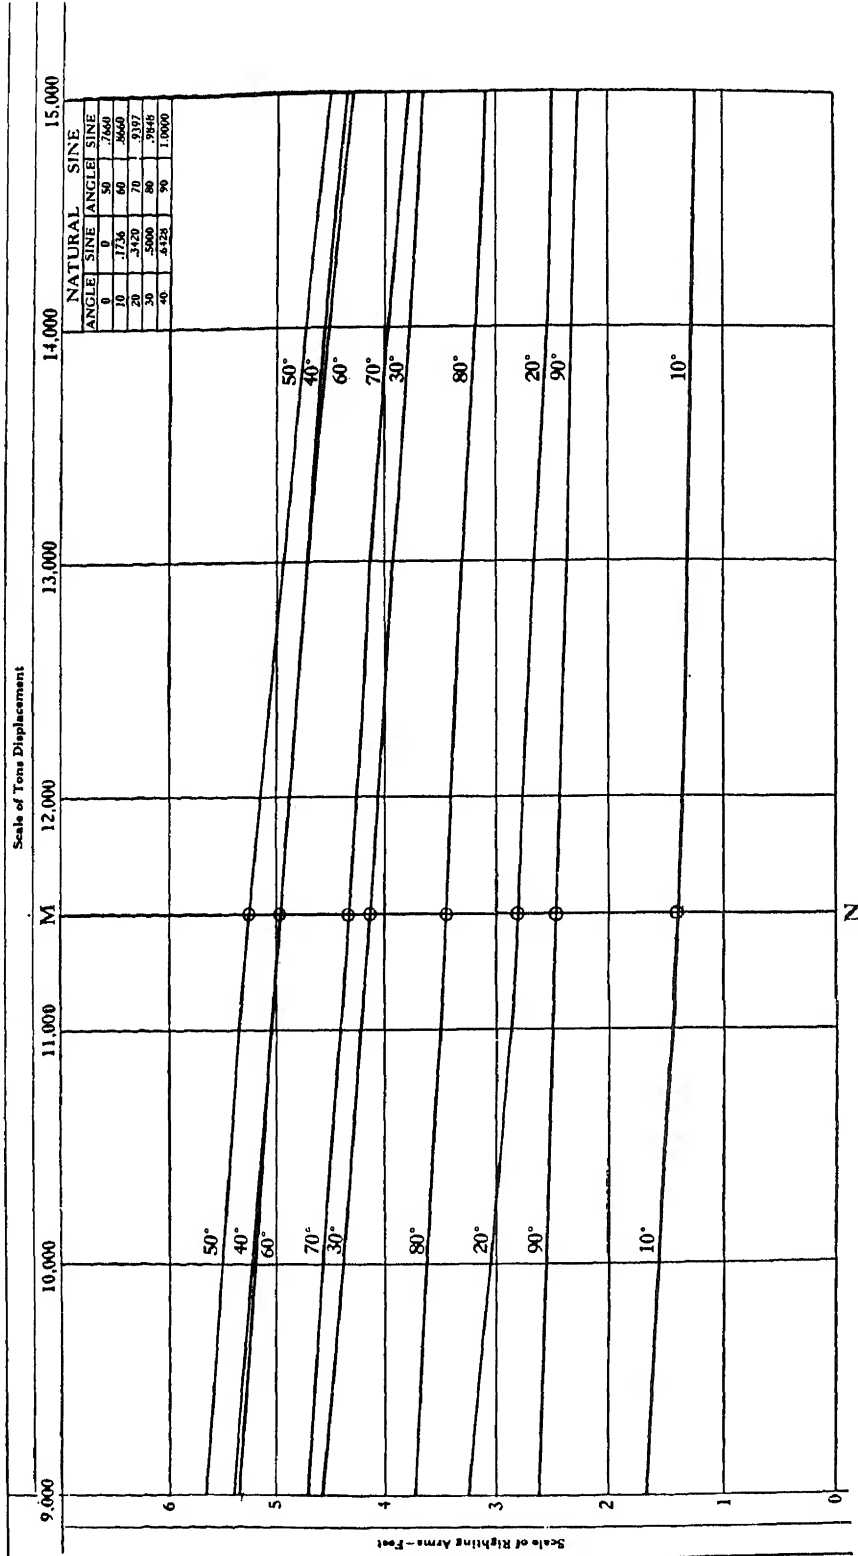
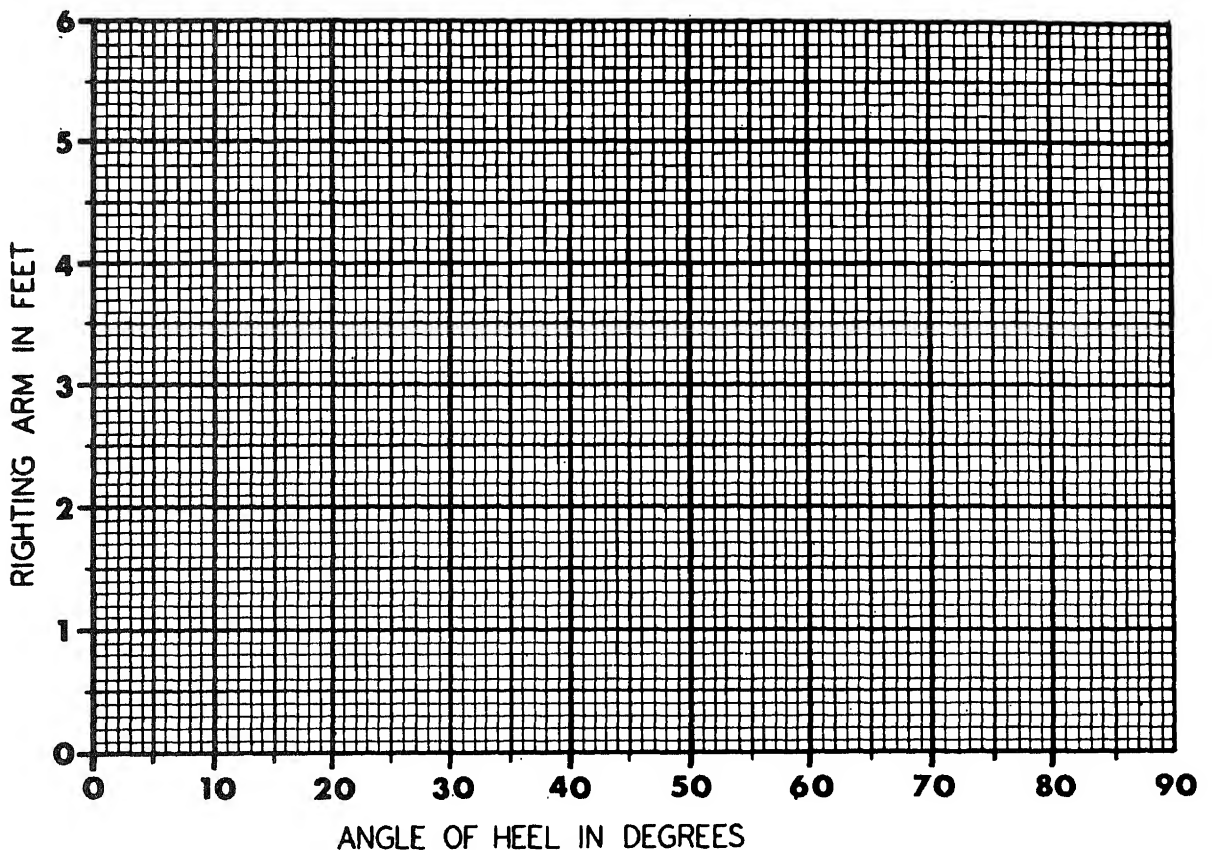

Figure 2C.
Figure 2D.
● In items 2-28 through 2-31, assume that you are plotting the stability curve for the USS Middletown when it displaces 10,500 tons. To answer the items you will have to (1) read the ship's righting arm values from the cross curves of stability in figure 2C, (2) plot the values as points on an uncorrected stability curve using the graph paper in figure 2D, and (3) draw a corrected stability curve assuming an actual KG of 25 feet. Do not try to answer the items before you draw both the uncorrected and corrected stability curves.